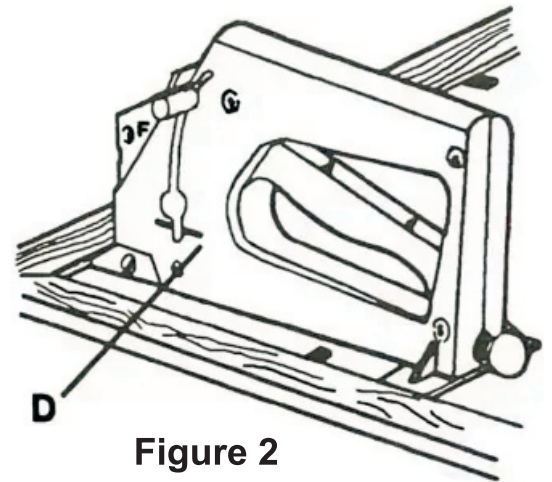

Figure 2
2. Insert the points into the slot in the magazine (C) and release the follower knob so it can apply pressure to the stack of points. Figure 2.